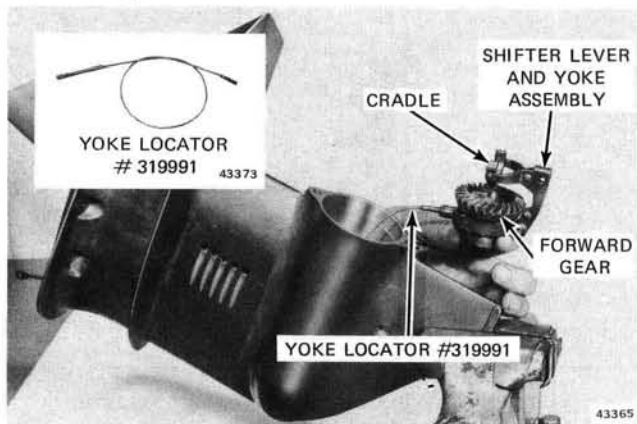
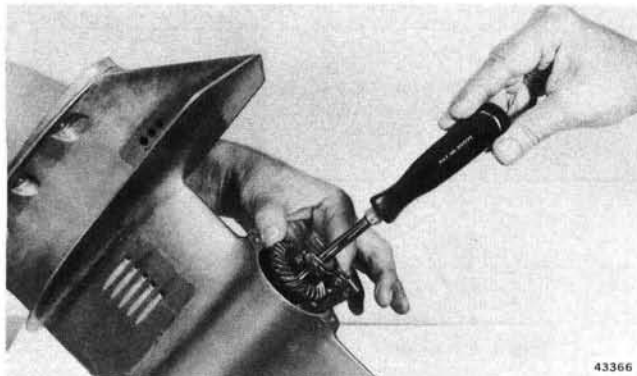

Figure 6-47. Installing Shifter Lever and Yoke Assembly
Figure 6-48. Guiding Forward Gear and Yoke Into Gearcase
6. Install forward bearing in cup. Insert threaded end of yoke locator (OMC Special Tool #319991) through shift rod cavity and out propeller shaft end of gearcase. Thread tool into shifter lever and yoke assembly, and position forward gear in yoke. Install cradle on shifter lever. See Figure 6-47. Using a screwdriver or other suitable tool and yoke locator, guide shifter lever and yoke assembly, cradle and forward gear into gearcase until gear contacts forward bearing. See Figure 6-48.